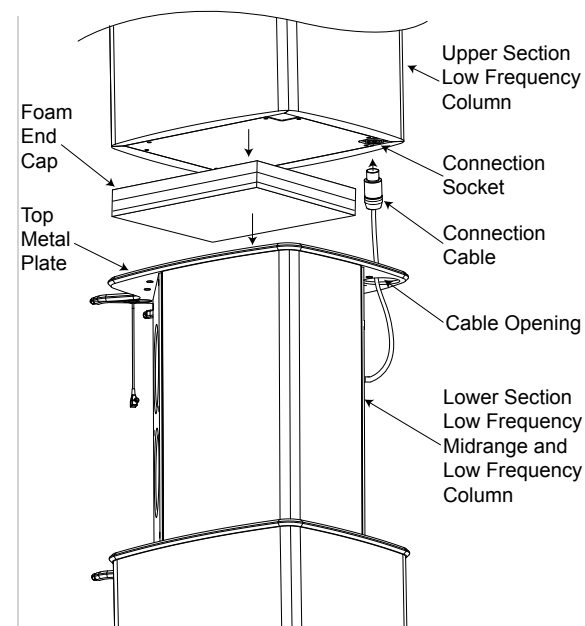

Figure 12
2. Carefully align the bottom of the Upper Section Low Frequency Column with the Low Frequency Midrange and Low Frequency Lower Section Column. Make sure that the end of the Connection Cable Plug with its cable will continue to fit through the Cable Opening on the Top Metal Plate. Refer to figure 12.